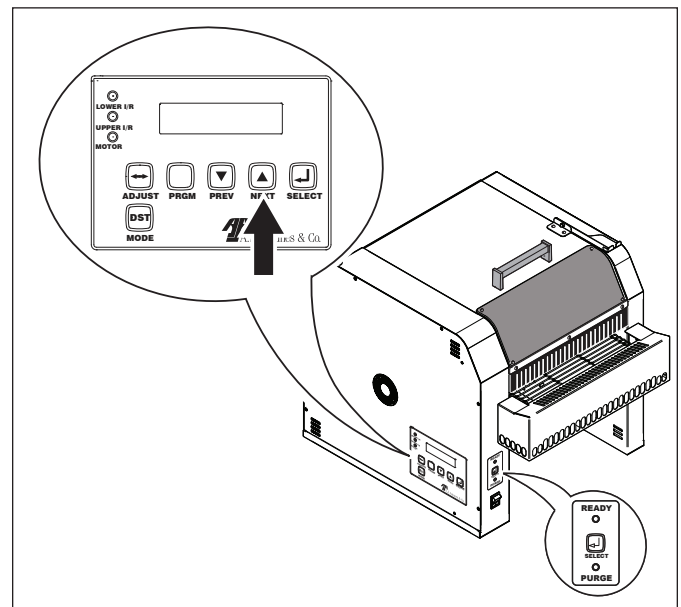

Figure 1. Purging Product from the Toaster
1. Press and release the **ADJUST** button on the Control Panel (Figure 1).
With the unit in Deli 1 or Deli 2 mode, press and hold the **NEXT** button until the product is purged from the unit (Figure 1).
With the unit in Deli 1 or Deli 2 mode, press and hold the **PURGE** button to purge product from the unit (Figure 1)